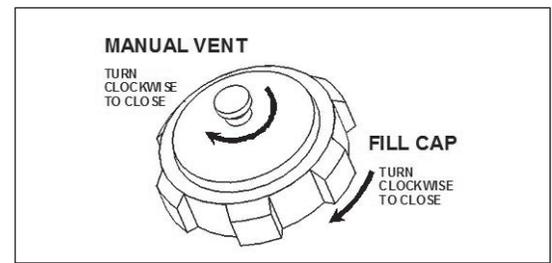

Figure 2
2. Replace fill cap and tighten in the clockwise direction as securely as possible by hand, as shown in Figure 2.
3. Tighten fill cap's manual vent screw in the clockwise direction as securely as possible by hand, as shown in Figure 2.